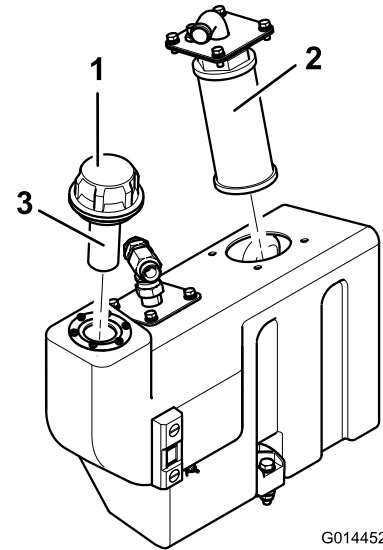

Figure 89
2. Remove the oil tank suction flange to gain access to the suction strainer (Figure 89).
3. Unscrew and remove the strainer and clean with paraffin or petrol before installing (Figure 89).